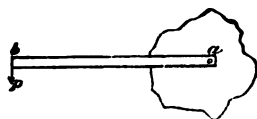

FIG. 6.—MOMENT OF A FORCE.
65. Moment of a Force.—The moment of a force is its ability to produce rotation. If ab , Fig. 6, be a lever rotating about the point a , and a force p be applied at b , in the direction of the arrow-head, it will, if sufficient, turn the body. This ability will depend on the magnitude of the force and the length of its lever-arm, and is equal to their product. Thus, the moment of $p = p \times ab$.